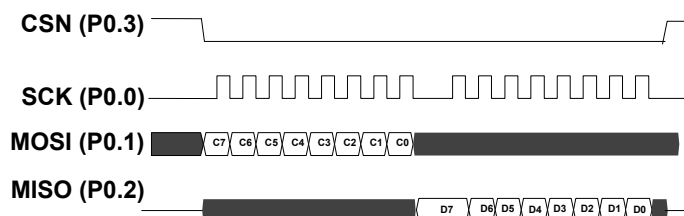
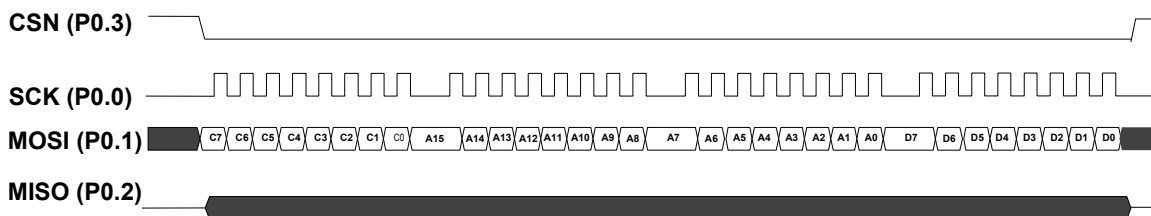

Figure 63. SPI read command without address
Figure 66. SPI OTP write operation, shown with 1 databyte
An SPI command always starts with the external master sending a command byte to the OTP slave, followed by a variable number of address and data bytes. The number of address and data bytes is specific to each command, as shown in Table 119. on page 141. In Figure 63. on page 141 to Figure 66. on page 142, C_n are the SPI command bits. A_n are the address bits and D_n are the data bits (note: MSBit in each byte first). After \overline{CSN} is deactivated, an OTP write command requires the chip to do the OTP programming, and this will take some time to complete. Therefore, it is advised to not issue a new command until the specified amount of time has elapsed. Alternatively, you can repeatedly issue `RDSR` commands until the `FSR.RDYN` bit reads back as 0.
The SPI command `RDSR` reads out the content of the OTP status register `FSR`, and consists of one-command byte and one-data byte as shown in Figure 63. on page 141. By keeping the \overline{CSN} line active after the first data byte, `FSR` will be repeatedly re-read until \overline{CSN} is set inactive.
3. The `PROGRAM` command is sent on the `MOSI` line followed by the two-byte address (address of the first byte) and the data to be programmed/ written, as shown in Figure 66. on page 142.
The SPI command `RDFPCR` reads out the content of the OTP protect configuration register `FPCR`, and consists of one command byte and one data byte as shown in Figure 63. on page 141.
The sequences of command and data in an SPI command are found in Figure 64. on page 141 and Figure 66. on page 142. In these figures only 1 byte of data is shown. Typically for read and write data transfers, the block should be as long as possible (64 to 256 data bytes gives the best performance).